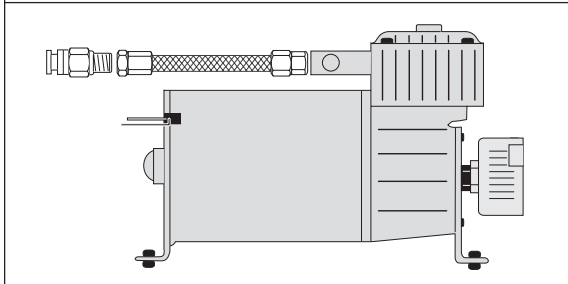

Figure 10
1. Install the fitting (C) onto the compressor leader hose (Figure 10). Install one end of the air line into the fitting. You will feel/hear it "click" into place. There will be 9/16" of air line in the fitting when properly seated.